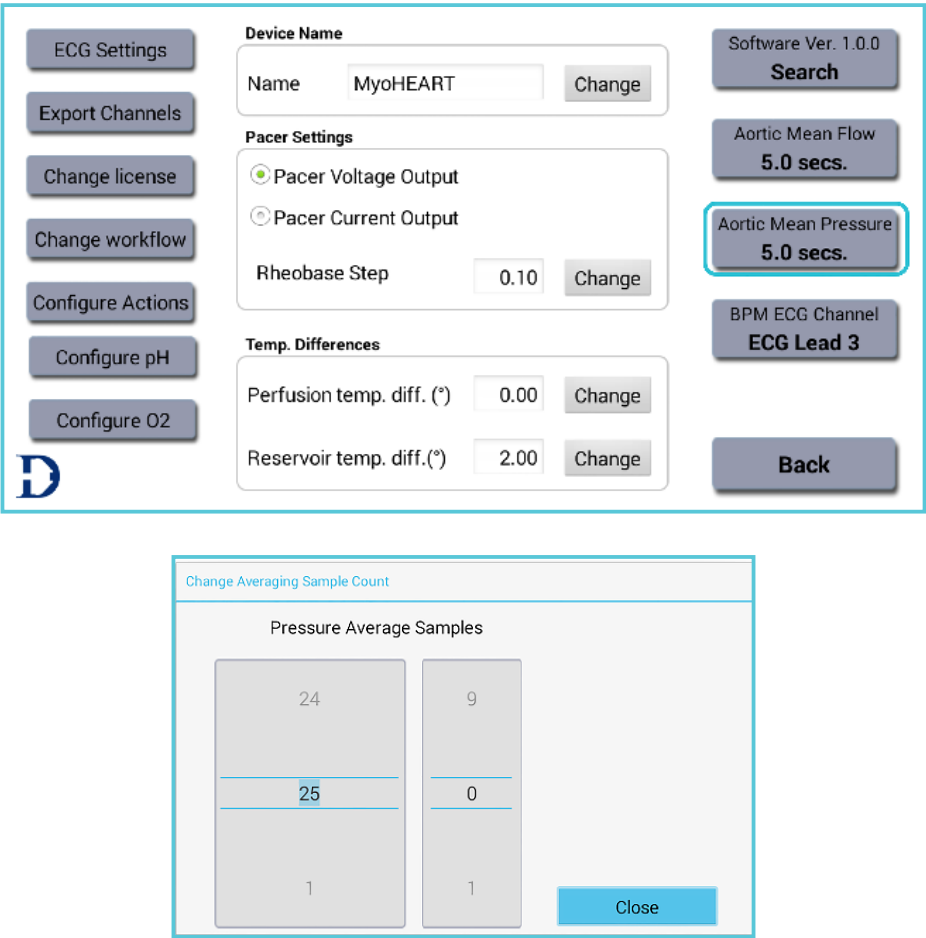

Fig. 131.B.: Aortic Mean Pressure.
**Aortic Pressure** - This channel/parameter is the actual pressure measured just above the mounted heart (see fig.131.A.).
the Aortic Mean Pressure across a given time period defined by the user. This time period, is defined by entering the Settings Menu and pressing the Aortic Mean Pressure Menu. Select the time period of seconds the mean pressure values should measure across (see fig. 131.B.). In the example below the Aortic Mean Pressure is calculated over 25.0 seconds.